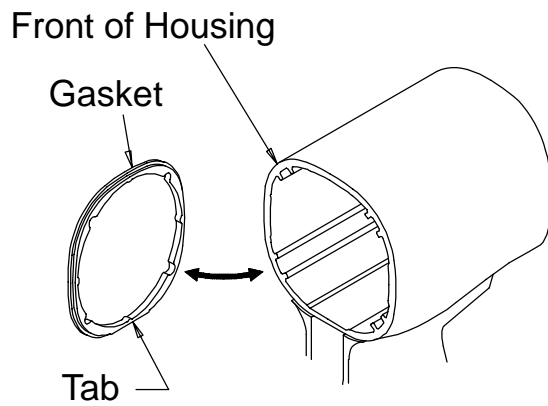

Figure 18
1. Position the Housing (20) in leather-covered vise jaws with the splined shaft of the Rotor in a horizontal position.
3. Position the Hammer Case Gasket (19) against the face of the Housing.
**NOTICE:** Be sure that the small tab on outside surface of the Gasket is located in line with the center of the Trigger. See Figure 18.
4. Apply a thin film of Craftsman No. 18830 Grease on inside surface of the Hammer Case Bushing (17), and place the Hammer Case (16) down over the Anvil and against the Motor Housing.
5. Install the Hammer Case Screws (12) and tighten them to 15 in-lb (1.7 Nm) torque.